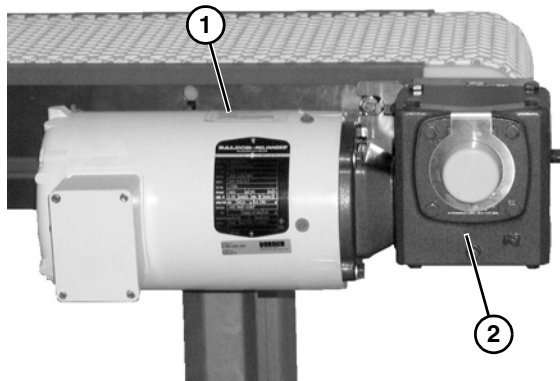

Figure 29
1. Attach the motor (**Figure 29, item 1**) to the gear reducer (**Figure 29, item 2**).